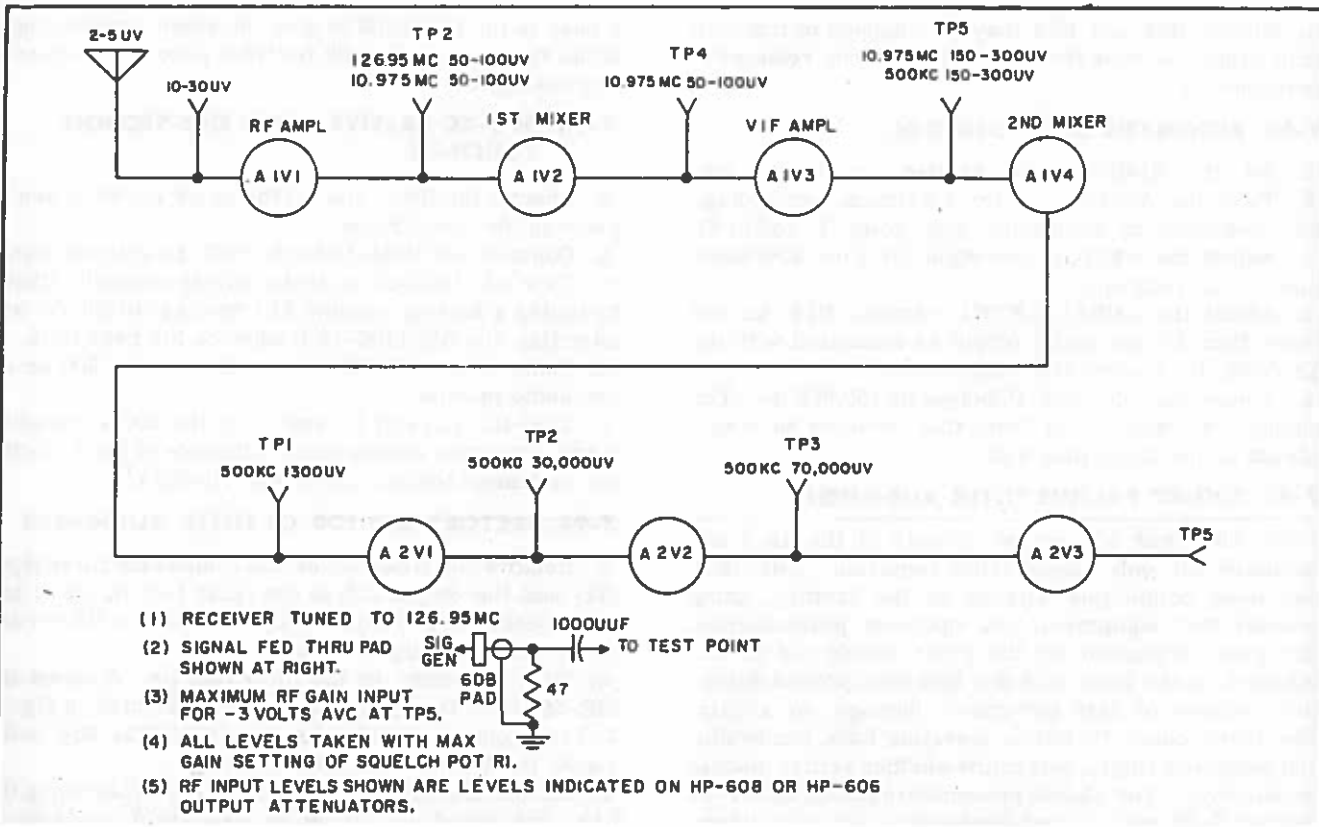

Figure 7-38. Stage Gain Chart
7-83. ALIGNMENT TESTS OF THE R-F AND VARIABLE I-F AMPLIFIER MODULE A1. The test setup is the same as in paragraph 7-82 except that the r-f and variable i-f module should be mounted in the frame. These tests require that the i-f and audio module and the passive filter module are working satisfactorily. Reference to the stage gain chart, figure 7-38, will aid in making these tests.
- b. Make stage gain checks per figure 7-38 and compare with those for a good 51X-2B.